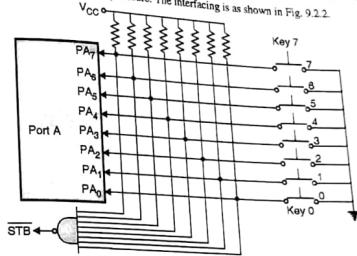

Fig. 9.2.2 : Hardware technique of identification
- (1) Identifying a key closure.
- (2) Debouncing the key.
- (3) Encoding the key to an appropriate code like hexadecimal.
- The above three functions can be performed through hardware as well as software. As an example we will see hardware technique for identification of key closure. The interfacing is as shown in Fig. 9.2.2.